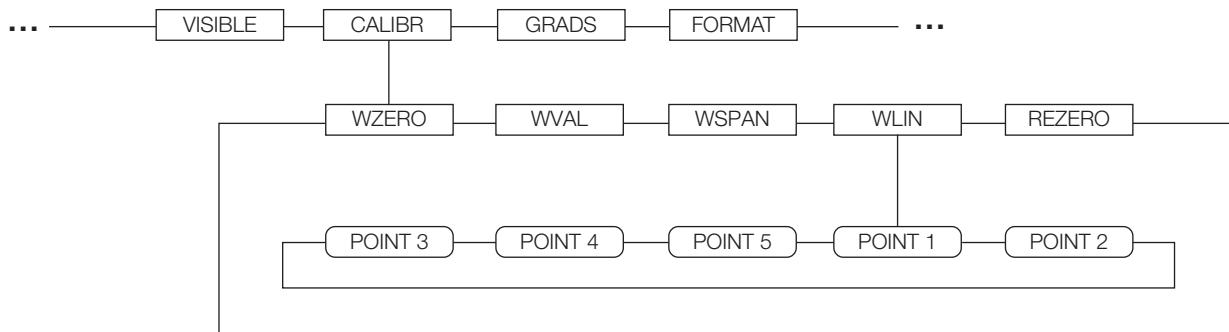
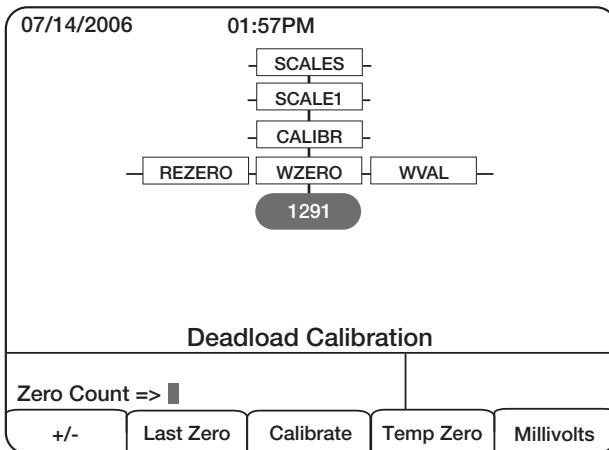

Figure 4-1. Calibration Submenu
Figure 4-2. WZERO Calibration Display
The CALIBR submenu (under the SCALES menu, see Figure 4-2) is used to calibrate the 920*i*. The zero, span, and linear calibration point displays provide a set of softkeys used specifically for calibration procedures:
2. With the **SCALES** menu highlighted, press the **down** key, then select the scale to be calibrated. Press **down** again (**GRADS** parameter highlighted), then press **left** to highlight the **CALIBR** submenu (see Figure 4-1). Press **down** to go to zero calibration (**WZERO**). See Figure 4-2 on page 56.